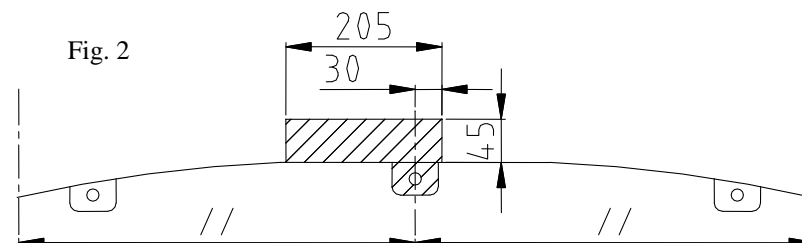

Fig. 2
2. Fix fulfillment of the bumper (with brackets) to the main bar of the towbar (pos. 1) using bolts M8x30mm (pos. 5).
3. All unit put to the chassis members and fix using bolts M10x40mm (pos. 4).
4. Underneath the bumper cut fragment acc. to figure 2.